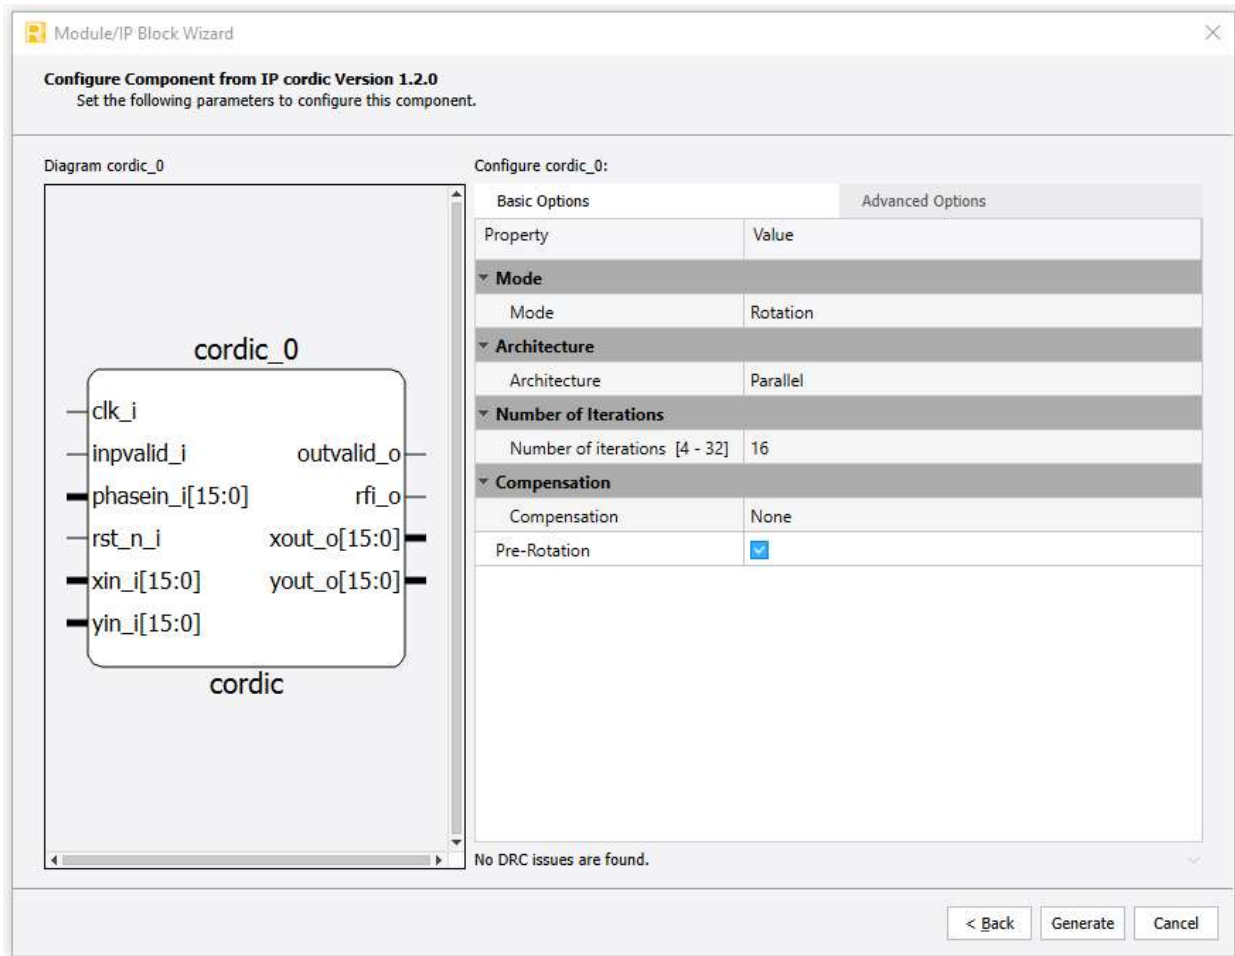

Figure 3.2. Configure User Interface of CORDIC IP Core
3. In the module’s dialog box of the **Module/IP Block Wizard** window, customize the selected CORDIC IP Core using drop-down menus and check boxes. As a sample configuration, see Figure 3.2. For configuration options, see Table 2.6.